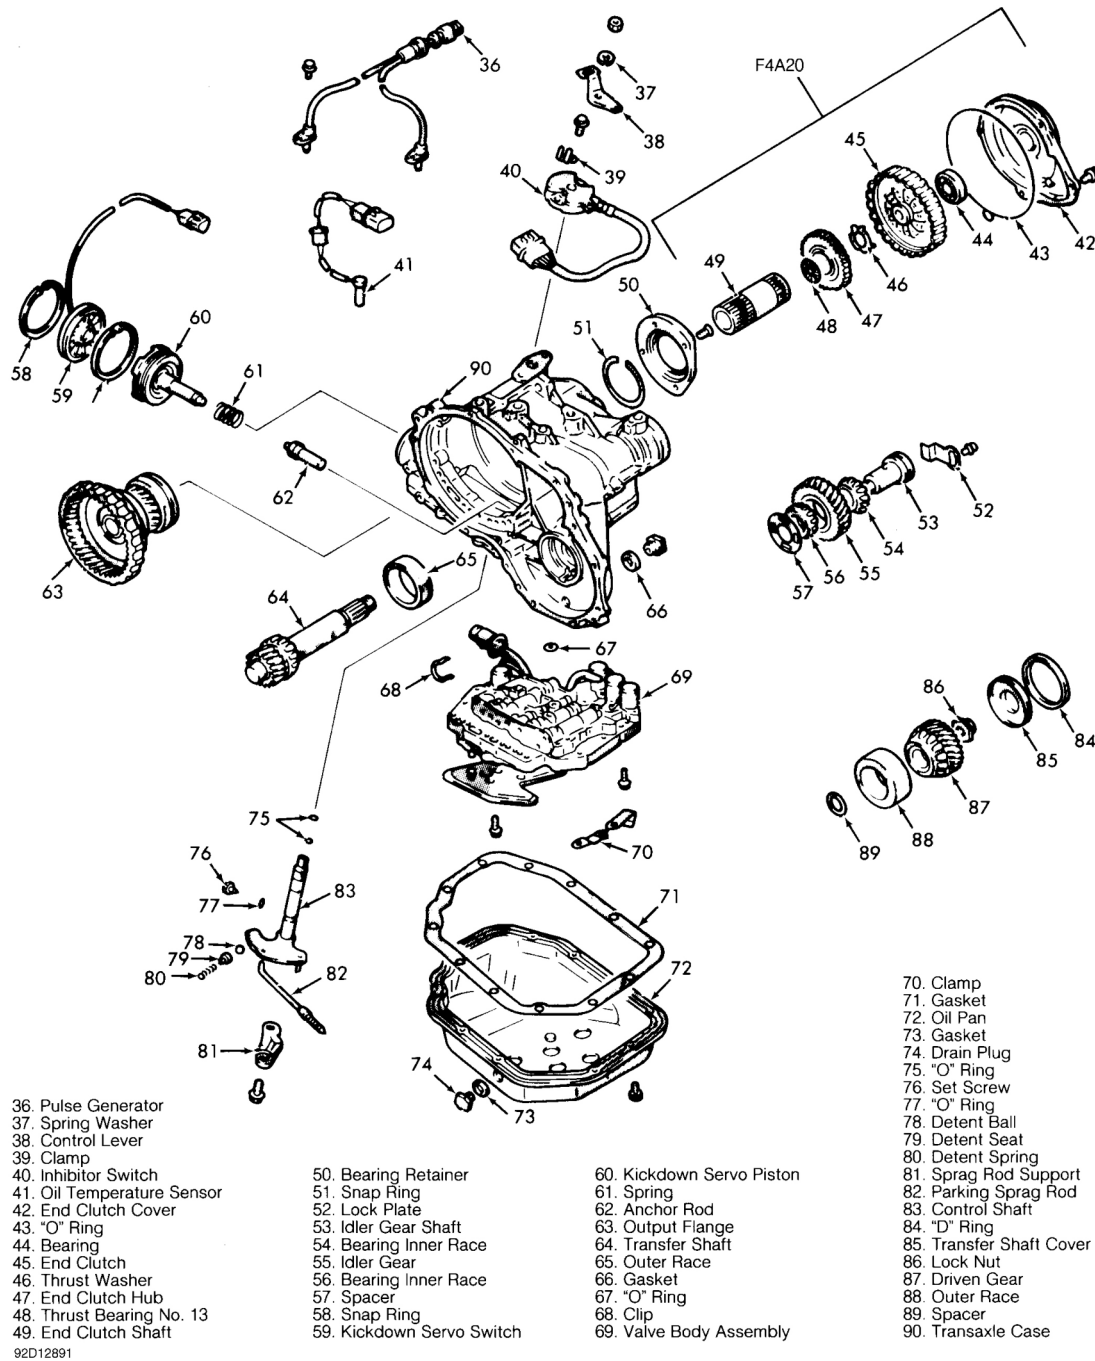

Fig. 36: Transaxle Assembly (F3A20 & F4A20 Series - 2 Of 2)
5. Measure transfer shaft end play and select a spacer which provides 0-.0010" (0-.025 mm) end play. Install transfer shaft cover. Assemble the planetary carrier, output flange, transfer drive gear and bearing and install in transaxle case. See **Fig. 35** and **Fig. 36** . Install snap ring on output flange rear bearing.